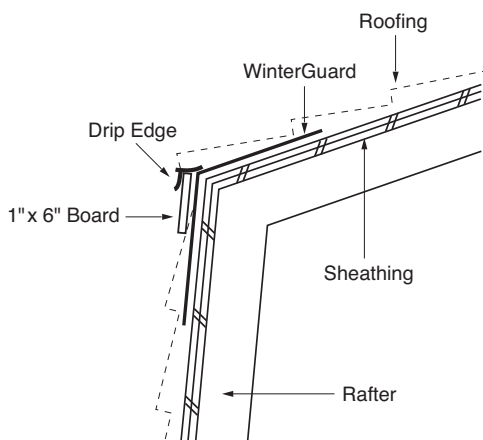

Figure 6-24
2. **DRIP EDGE OR GUTTER:** Apply shingles on the lower roof plane up to the joint and cut off excess shingle material flush to the deck joint. Apply a waterproof type underlayment, such as WinterGuard®, over the joint in the deck planes to help provide a waterproof barrier. The waterproofing underlayment should be applied directly to the upper deck plane and overlap the shingles on the lower deck plane by about 5". Install a 1" x 6" painted fascia board, (the waterproofing underlayment must be totally covered by the fascia board), at the very top of the lower roof and then install either drip edge or gutter onto the fascia. Apply shingles to the upper plane per standard application technique, letting the starter and first course shingles over hang the drip edge or gutter about $\frac{1}{2}$ " to $\frac{3}{4}$ ". Refer to Figure 6-24 below.